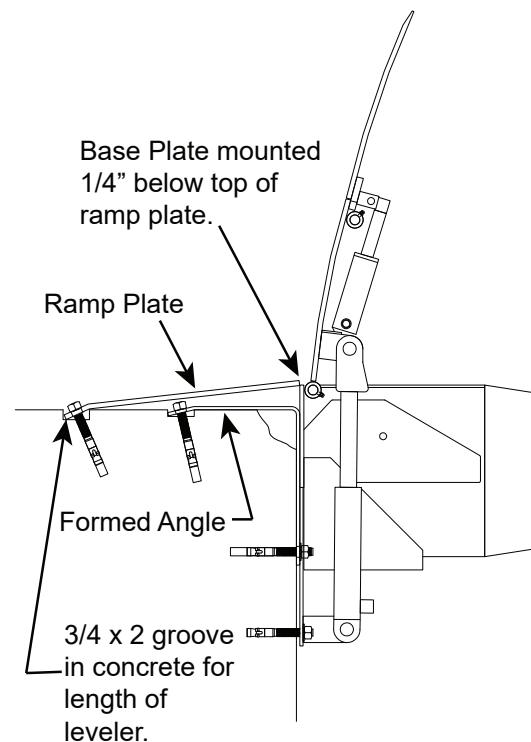

Figure 9
4. At the points marked to each side of center, measure and mark points 8" below the desired dock level, subtracting the height the unit is to be raised to locate bottom of base plate. This will locate the top of the base plate "X" above dock level. See **Figure 9**.
10. Break tack welds holding ramp in place, slide ramp plate back into position with the top of the ramp plate 1/4" higher than top of base plate. See **Figure 9**. Tack weld each end and center of ramp plate to base plate.
1. Top of base plate to be 1/4" below top of ramp plate to provide a smooth transition. Bumpers are to be flush with top of ramp plate. See **Figure 9**.